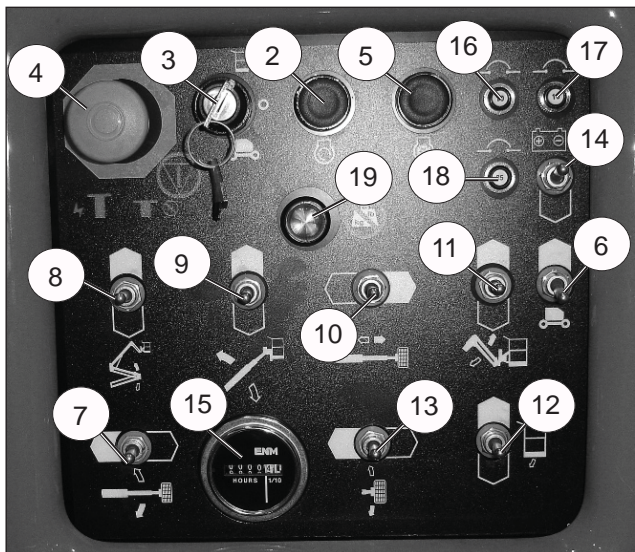

Figure 3 – Lower Controls and Indicators
5. Test each machine function (Jib, Riser, Platform Level, Platform Rotate, Lift, Slew, Telescope) from the lower control station by holding the ground operation switch up while operating the control toggle switches (ref: Figure 3 on page 6).